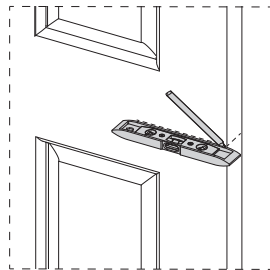

Figure 2.
- 1.2. Using a spirit level, mark the door at the desired height, continuing the line from the front of the door, around the edge and onto the back of the door. (Figure 2)